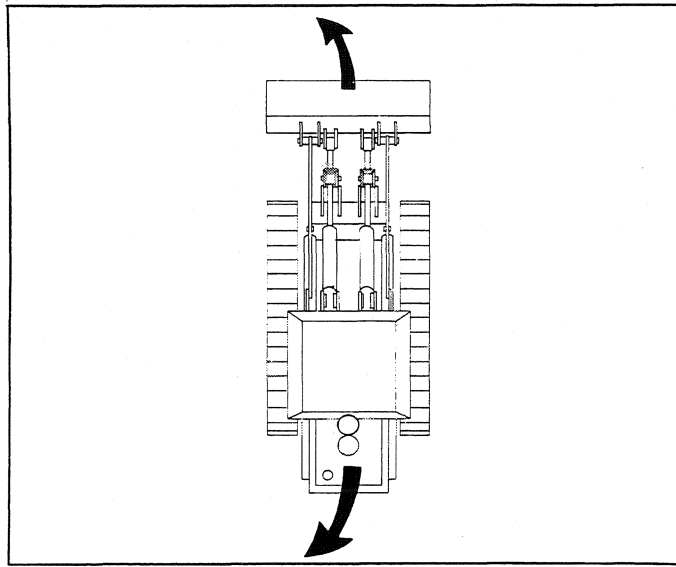

Fig. 6B
Gradually depressing the left pedal (B) the machine will steer to the left with a steering radius proportional to the stroke of the pedal (fig. 6B).